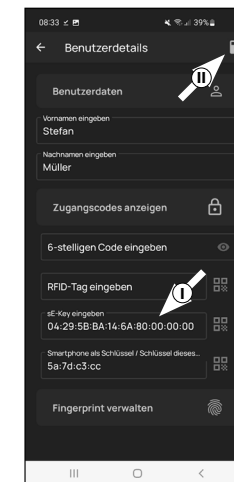

Fig. 7
- 7 This takes you back to the user details window. In the "Enter sE-Key" field you now see that the transponder has been stored (I) (Fig. 7). Tap the "Save" symbol in the top right-hand corner (II) (Fig. 7).